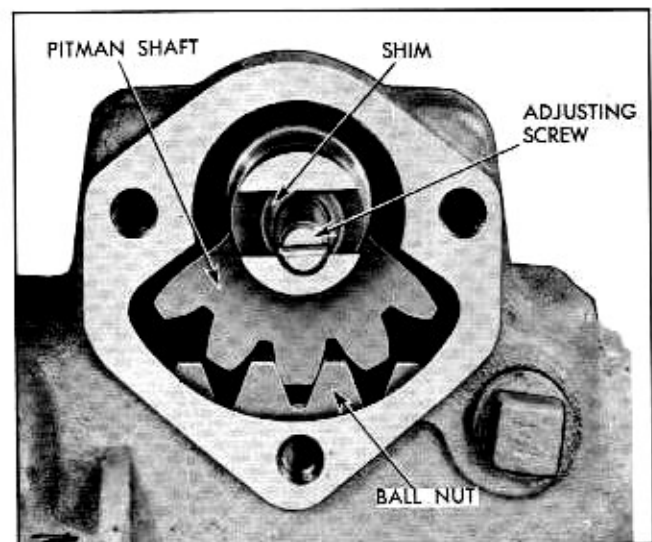

Fig. 9-30 Adjusting Worm Bearing Preload
6. Install pitman shaft and adjusting screw with sector and ball nut teeth positioned as shown in Fig. 9-30.